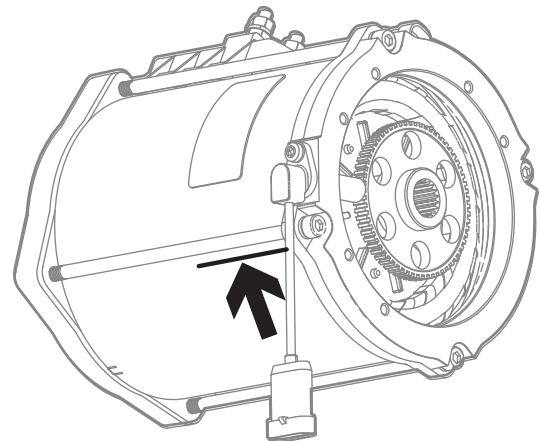

Fig. 2 Mark Axle and Motor
2. Mark both the axle and motor housings to help with realignment during assembly of the motor to rear axle (Ref Fig. 2).